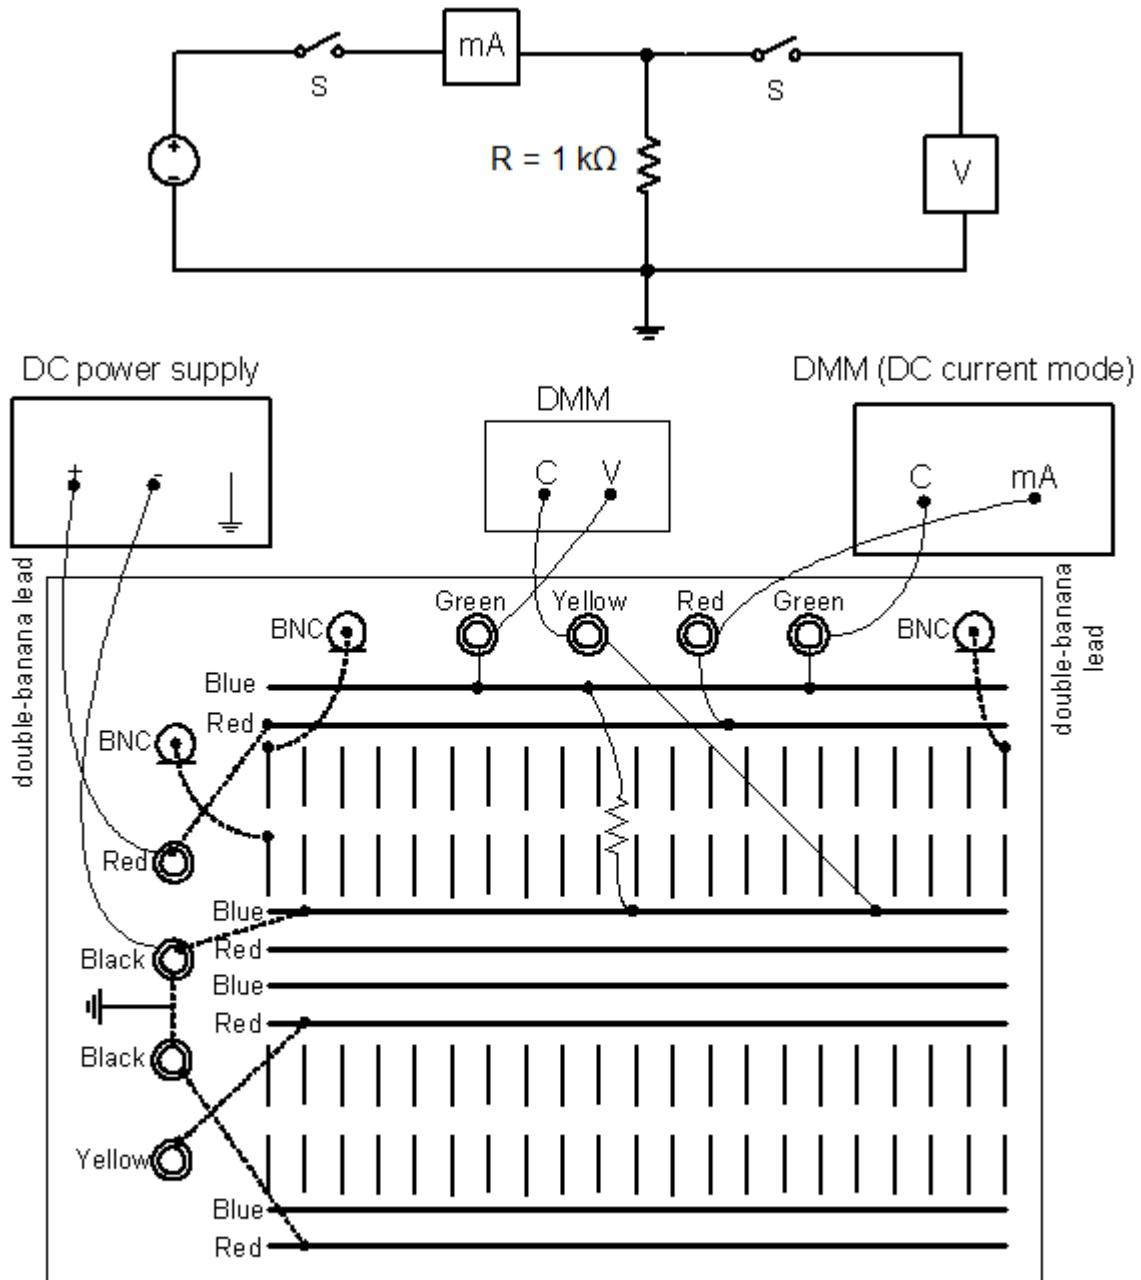

Figure 1.3
Step 3: Connect the circuit as shown in Figure 1.3 on the next page, using hook-up wires and both DMMs as shown. This way the voltage across and the current through the resistor can be measured simultaneously.